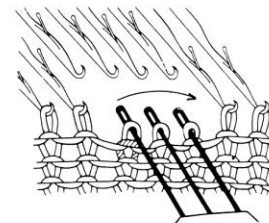

Fig.53-1
- Continue moving the stitches outwards until you have an empty needle at the point where you wish to increase. (Fig.53-1)